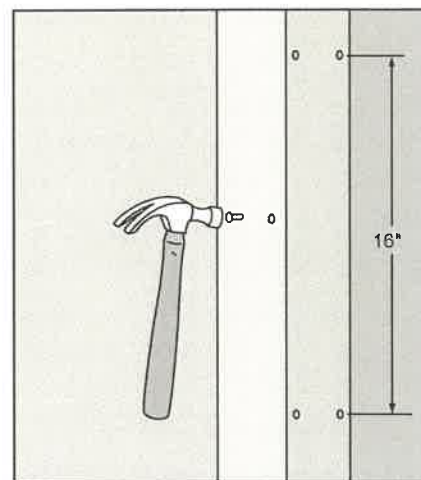

Fig. 14
- Secure each side of the corner with 2 nails every 16 inches along the length of each side of the corner, staggering the nail pattern to prevent opposing nails from contacting each other (**Fig. 14**)